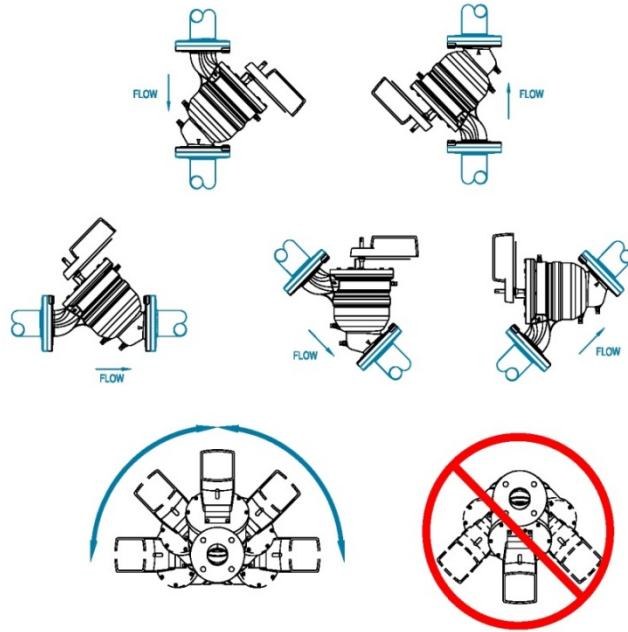

Figure 6: Installation Orientation
1. Confirm that the valve tag corresponds to the proper installation location. Install valve so that the flow is in the proper direction. A flow arrow is cast in the valve housing. Valve may be mounted in any position, except it is recommended that valves with actuators in horizontal pipe NOT be mounted with the stem in any position below horizontal, to reduce the chances of condensation (drips) from entering the actuator mechanisms. Installation with the piston in the up position is preferred when possible. Refer to Figure 6. There are no restrictions regarding length of straight pipe at the inlet or outlet of the valve.
- The valve should be mounted to allow unrestricted access to the P/T taps; install the three P/T plugs (if shipped loose) into the valve body taps (ref Figure 6). Plug extensions are available from factory to allow for access through insulation.
- Model HDP DeltaPValves are furnished standard with a 5-70 psid (35-480 kPa) range (minimum 5 psi / 35 kPa  $\Delta P$ ) over which the valve will operate in a pressure-independent manner. This  $\Delta P$  can be measured between P/T Plugs P1 and P3 - see the Figure 6. Optionally, the valve may be provided with a 10-90 psi range (minimum 10 psi / 620 kPa  $\Delta P$ ).